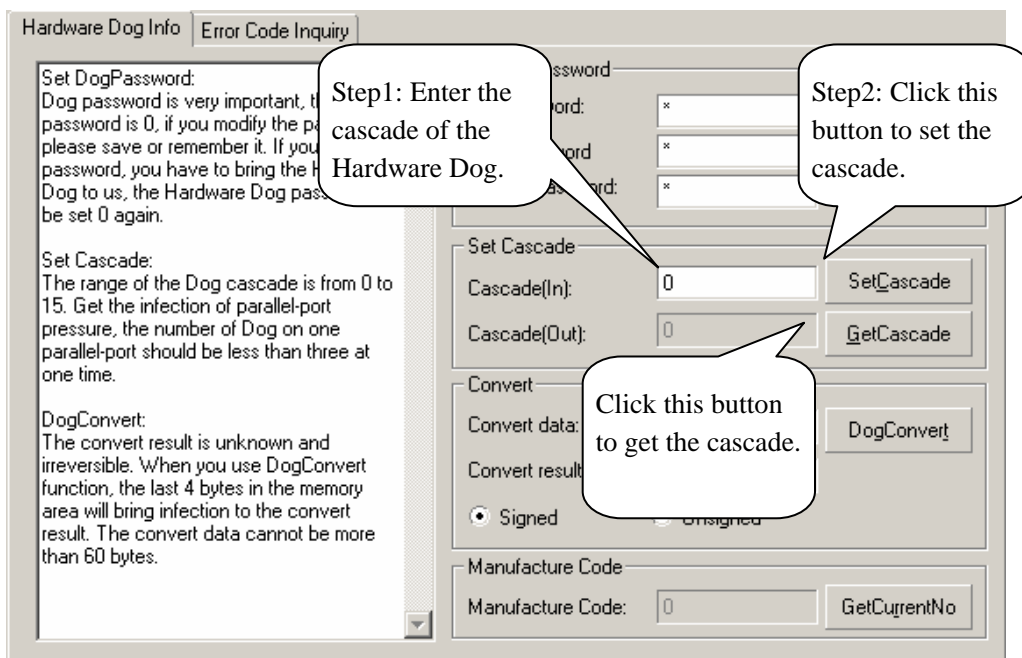

Figure 3-6
B. Follow the steps 1, 2 described on the figure 3-6 to set the cascade.